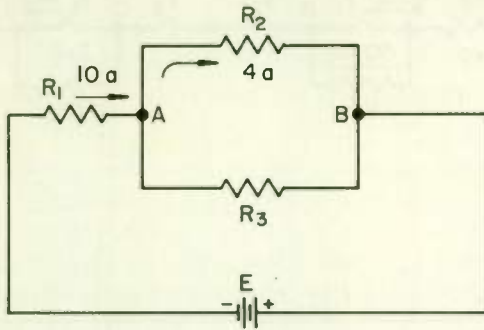

Fig. 2
1. In Fig. 2 what is the value of current through R_3 ?